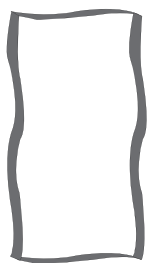

Figure 8: Add stiffeners to unsupported flat sheets
- Unsupported flat sheet assemblies (*Figure 8*)